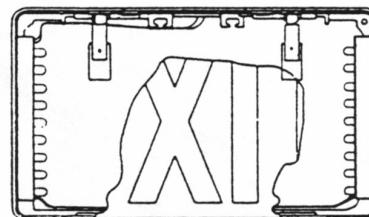

Figure 2
3. Clean off side walls of exit fixture before mounting LED assemblies. Remove adhesive strip backing from one LED assembly and place on side wall. Center LED assembly top to bottom and front to back on side wall. Press LED assembly securely in place (See Figure 2). Repeat for second assembly on opposite side of exit fixture. Route input wires out the exit fixture (through wireway opening provided with smooth edges) into the junction box to which exit fixture is connected. Dismount exit fixture and extra lampholders as needed. Secure LED assembly wires to the exit fixture frame to prevent shadowing.
WIRING HOOK-UP 120V AC SUPPLY (FIGURE 2)
WIRING HOOK-UP 277V AC SUPPLY (FIGURE 2)